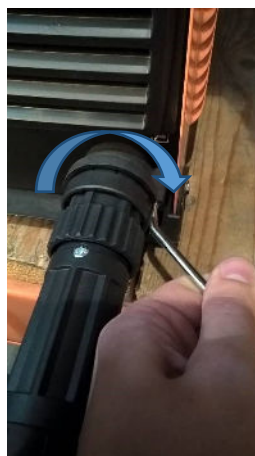

Fig 3
- ⇒ Push and hold in button in (Fig 2) whilst at the same time rotate nut on torch clockwise until fully connected and tight as shown in Fig 3